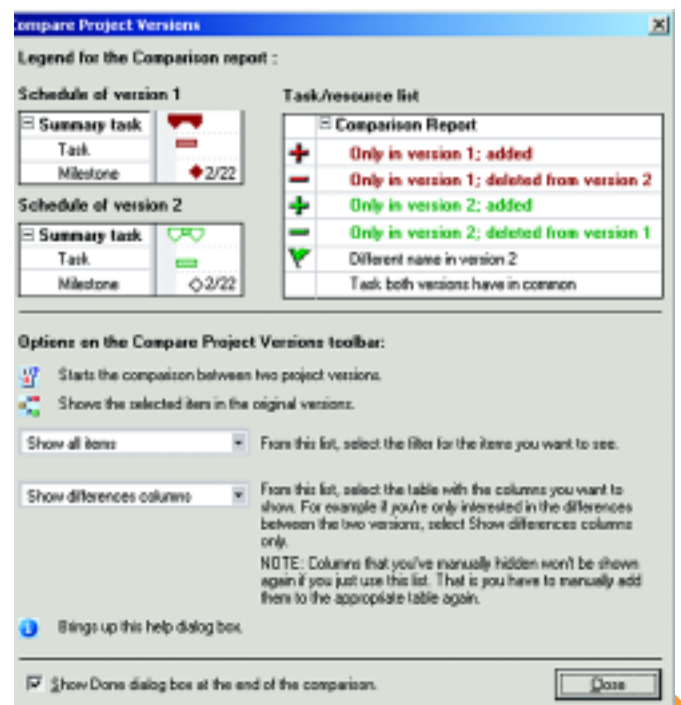

Figure 4: The Comparison report legend
11. Click the **Yes** button to view the Comparison report legend as shown in Figure 4.
16. The  button on the **Compare Project Versions** toolbar will redisplay the legend dialog as shown in Figure 4.